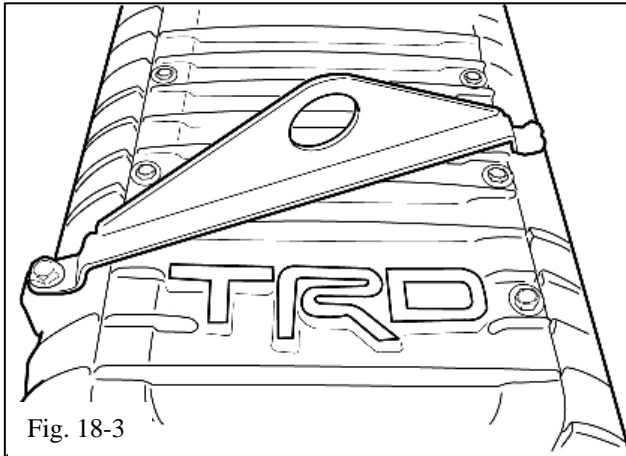

Fig. 18-3
- (c) Attach the TRD hoist bracket to the top of the supercharger with the M8 bolts that are part of the hoist bracket kit (Fig. 18-3).